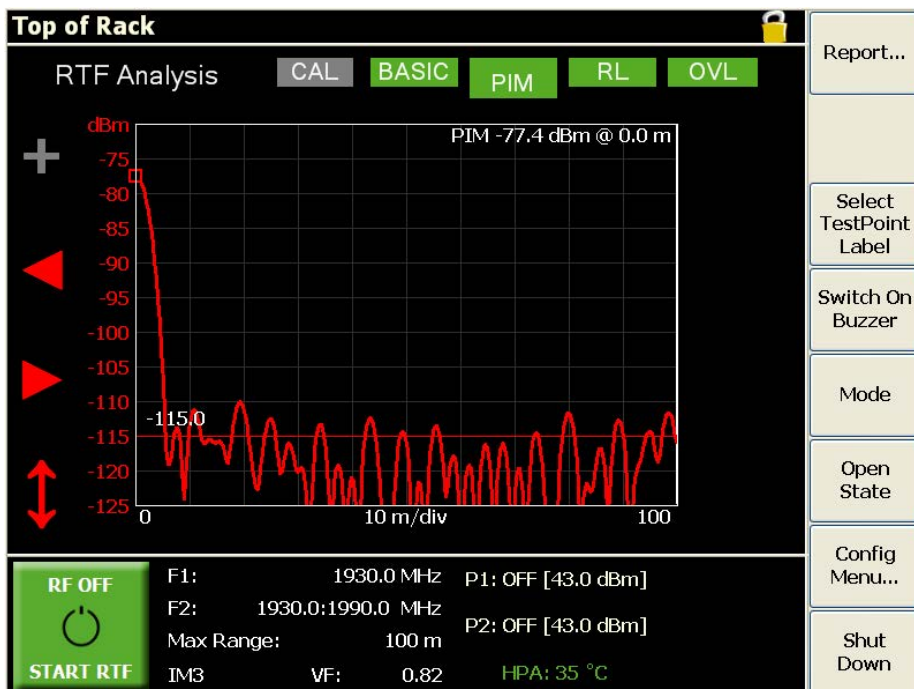

Figure 37 Results of verification sweep (PIM vs Distance screen)
3. When the measurement sweep is complete, examine the PIM vs Distance plot in standard resolution mode. The plot should consist of a single large peak located at zero metres, as shown in Figure 37. The amplitude of the peak will vary with iQA/iPA frequency variant, tone powers and PIM product, however, the height of the main peak above all the other peaks on the plot should always be between 30 and 40 dB.